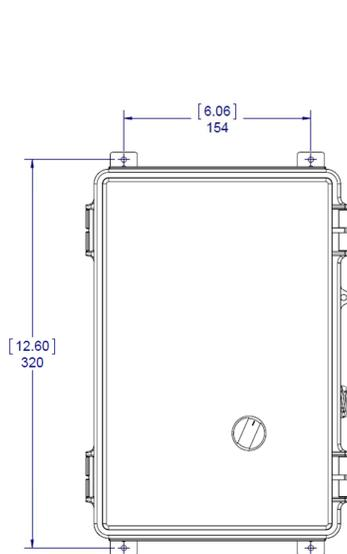
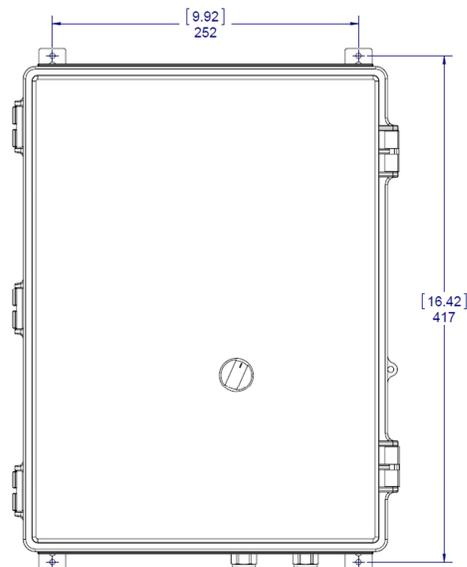

Figure 2. One-Lamp Systems
Figure 3. Two-Lamp Systems
Step 2: There are two different **RAINIER** control panels, depending on which system is purchased. The three single lamp systems ("35", "55" and "85" series) use a control panel that is 30.0 x 20.0 x 16.0 cm (11.8 x 7.9 x 6.3") in size (see Figure 2), while the three two-lamp systems use a control panel that is 40.0 x 30.0 x 16.0 cm (15.8 x 11.8 x 6.3") in size (see Figure 3).